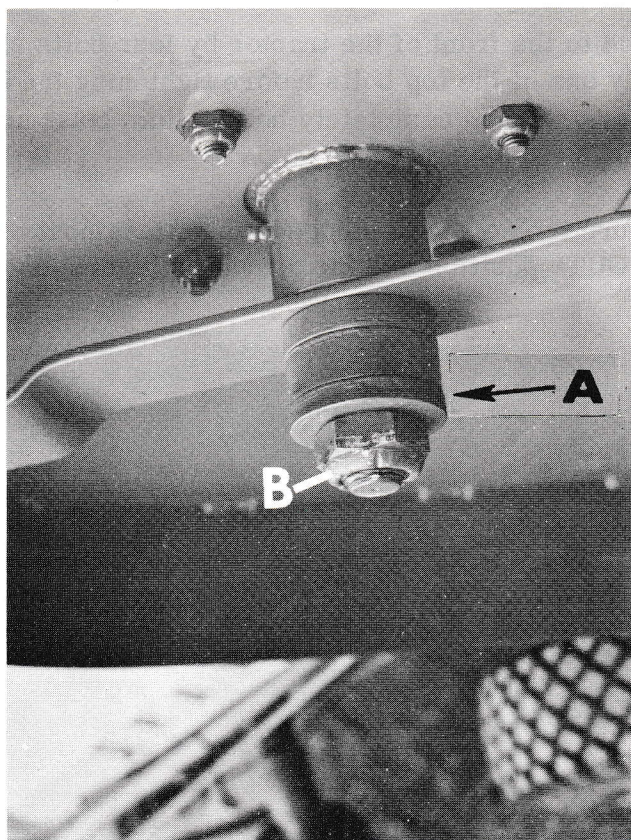
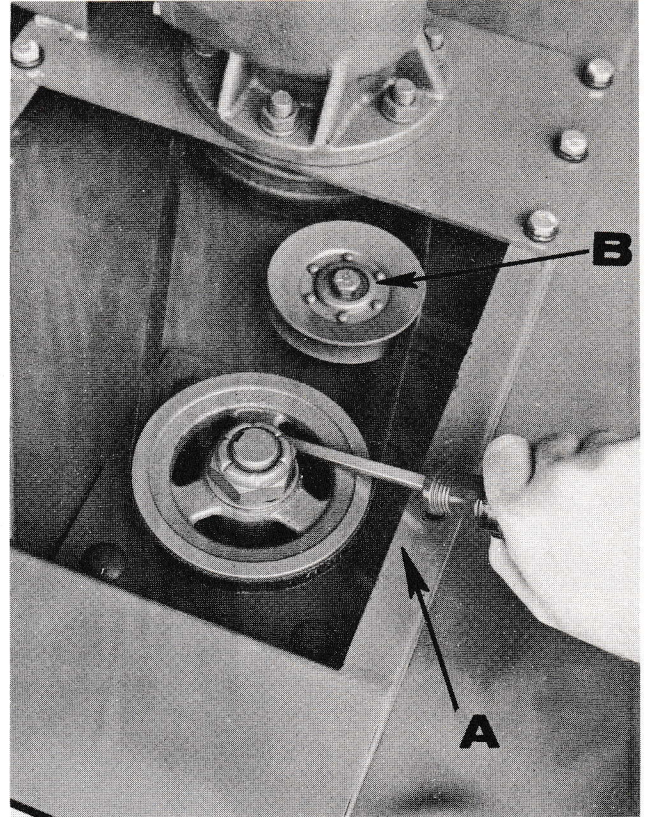

Figure 2
Figure 4
The cutting height of the mower is adjusted by the collars on the rotor shaft shown at A, Fig. 2. The closer the blades are to the bottom of the deck, the higher the cut, and vice versa. Vary the combination of the three collars as you so desire. The cutting height of the mower is from 1 1/2" to 3".
On some mowers, a square hole has been machined in the end of the shaft shown in figure 2. To remove or replace blade easily, insert standard 3/8" socket drive in square hole, and remove or tighten nut with wrench as required.
- (C) Use a large screw driver, etc., to hold the pulley as shown at A, Fig. 4, while loosening the nut on the bottom of the blade shaft as shown at B, Fig. 2. It is a conventional right handed thread nut.
The belt adjustment can be made by first removing the belt cover. Then loosen the bolt on top of the idler pulley shown at B, Fig. 4. After loosening, the pulley can be moved in either direction to loosen or tighten the belt. There is an idler pulley for each belt.